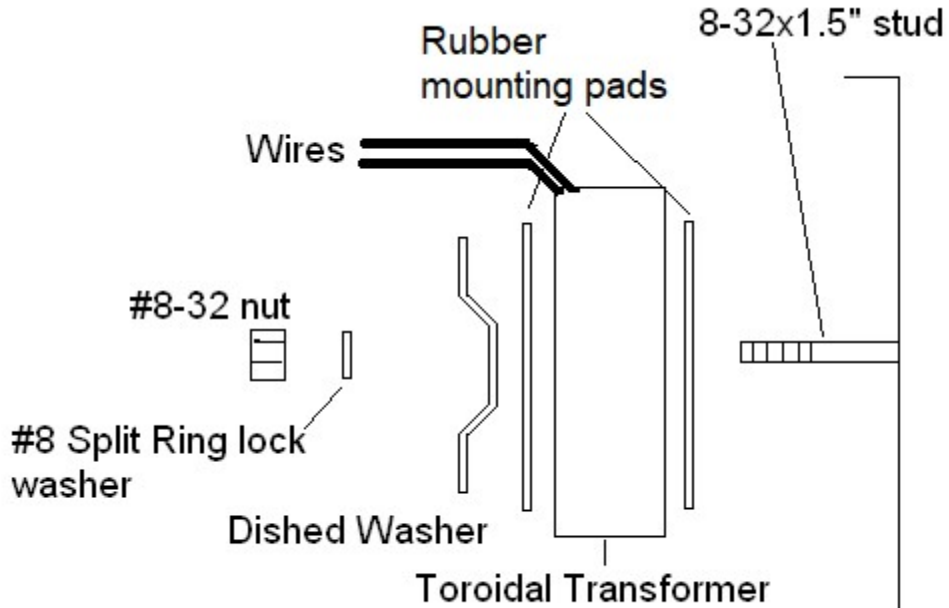

Figure 18-Fasten the transformer to the preamp right side wall
5. Fasten the transformer to the right side wall of the preamp in the manner shown in Figure 18. This operation may be easier if you turn the chassis on its side so that gravity helps you. Prevent scratches on the side of the chassis by setting it on a towel.